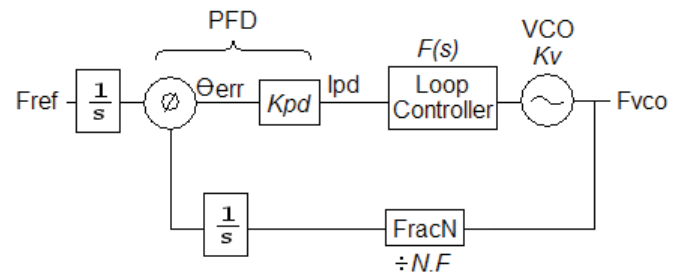

Fig. 2. PLL block diagram.
Transient will happen when it is required to change the output frequency of a PLL. Fig 2 shows the PLL diagram that use charge pump PFD and fractional N divider. To change the PLL output, the divider is programmed to a different value.
F_{vco} can also be changed by changing the F_{ref} , but this is uncommon in practice. Nevertheless, it is more convenient from an analysis point of view as the change is directly at the input of the PLL. For a PLL in Fig.2, the equivalent change at F_{ref} when the divider is changed is given by (1). N_{old} is the old divider value and N_{new} is the new divider value after stepping. The change ΔF_{ref} is in step, as the change in the programmable divider value is instantaneous.